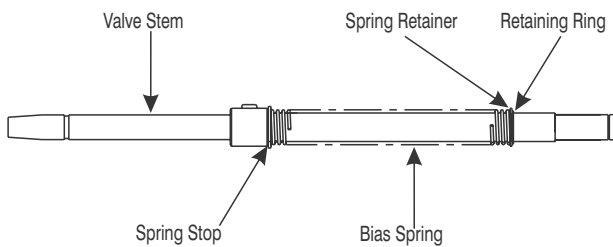

Figure 9-10. Install Bias Spring Components.
2. Slide the Spring Stop (10), the Bias Spring (9) and the Spring Retainer (8) onto the Valve Stem (11) as shown in Figure 9-10.
3. Install Retaining Ring (7) to secure the other Bias Spring components on the Valve Stem, as shown in Figures 9-10 and 9-11.